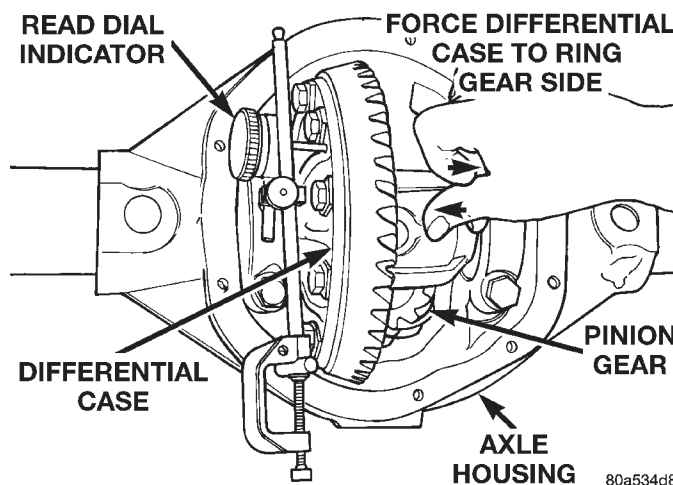

Fig. 53 Hold Differential Case and Read Dial Indicator—Typical
(23) Push and hold differential case to ring gear side of the axle housing (Fig. 53).
(24) Record dial indicator reading (Fig. 53).